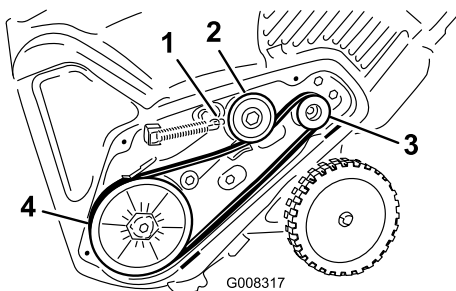

Figure 36
8. Install the brake spring onto the idler arm (Figure 36).
5. Install the new drive belt, routing it as shown in (Figure 36).